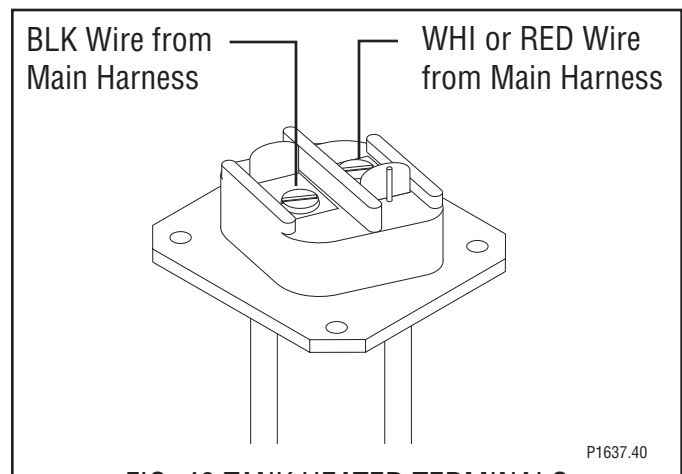

FIG. 49 TANK HEATER TERMINALS
15. Refer to Fig. 49 when reconnecting the wires to the tank heater.